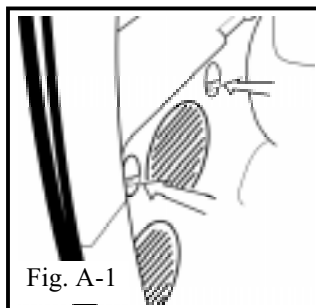

Fig. A-1
1. Open rear liftgate and locate anchor points on each side of the vehicle. (Fig. A-1)